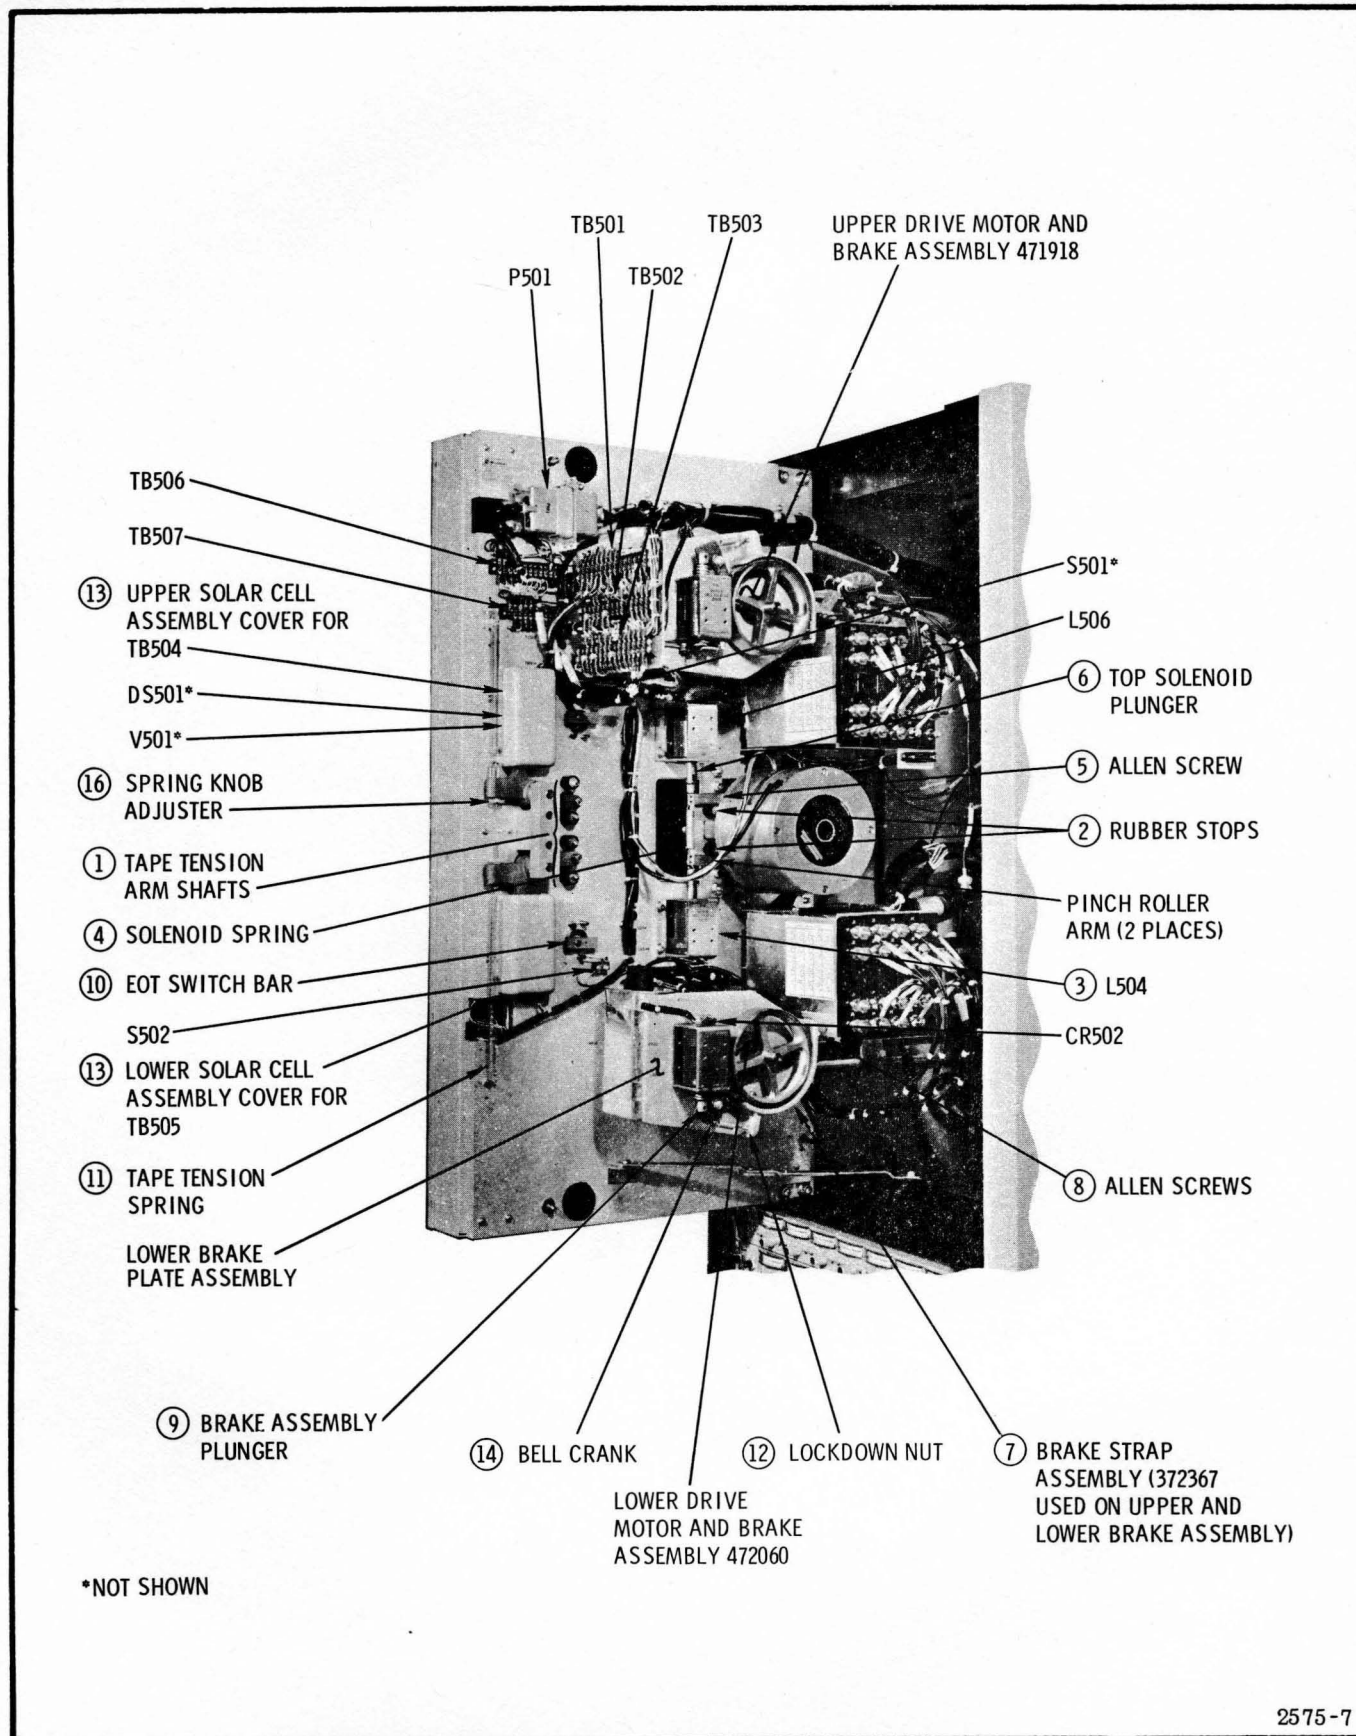

Figure 5-4. Tape Transport Baseplate (Rear View)
5-11. Refer to figure 5-4 for a rear view of the tape transport plate. Many of the components used for transport mechanical alignment are identified by index numbers in this illustration.
5-28. When proper brake tension is obtained on the lower reel, tighten the lockdown nut (item 12, figure 5-4).